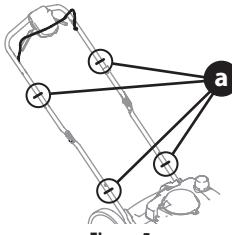

Figure 5
- If necessary, tighten any loose cable ties (a) securing cables to the handle (Figure 5).